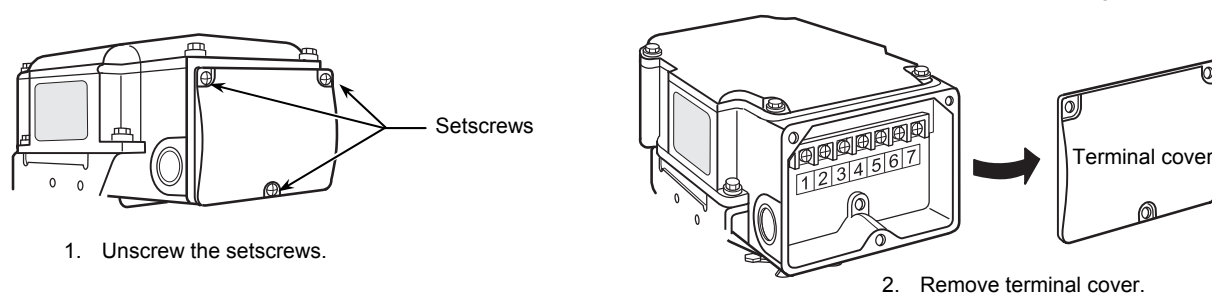

Figure 8. Terminal cover removal
- 2) Unscrew the 3 setscrews (M4 × 10) of the terminal cover and remove the terminal cover, as shown in Fig. 8.